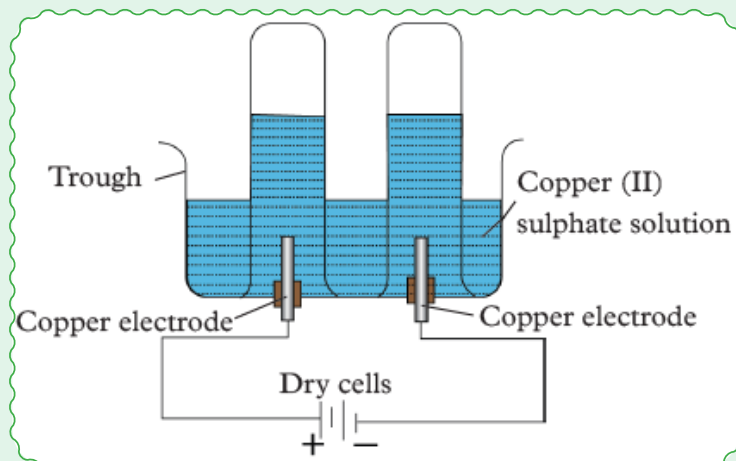

Figure 7.2.5.(b): Electrolysis of copper (II) sulphate using copper electrodes
- Put copper (II) sulphate solution in a beaker.
- Set up the apparatus as shown in Fig. 7.2.5 (b) and switch on electric current.